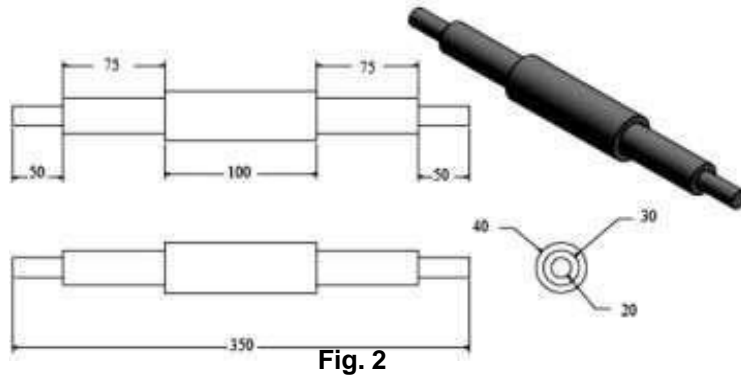

Fig. 2
3. The Shaft is to be Manufactured from 0.4% carbon steel to the sizes shown in Fig.2. The 30 mm and the 40 mm diameter are to be ground. Prepare a production detail drawing for shaft using any modeling software.